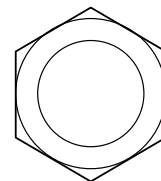

Figure 33. Pre-Heat Lamp
4. Depending on the temperature of the coolant (cold weather conditions), the pre-heat lamp (Figure 33) will light (**ON**) and remain on until the pre-heating cycle has been completed. Upon completion of the pre-heating cycle, the light will turn **OFF** and the engine will start up automatically.